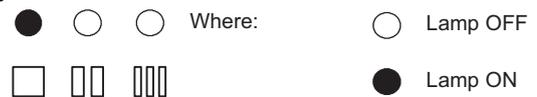

Figure 9.11
- The lamps 11 should give the indication as in Figure 9.11